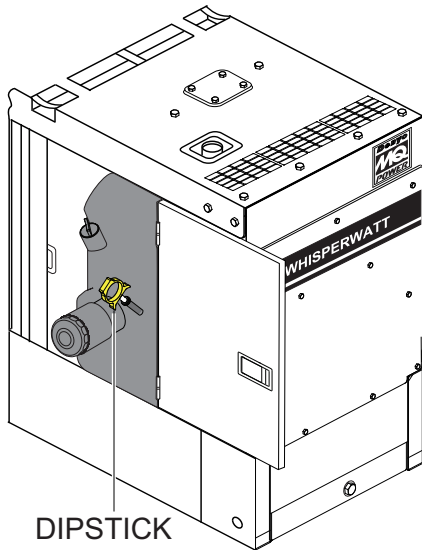

Figure 22. Engine Oil Dipstick
2. Remove the **engine oil dipstick** from its holder (Figure 22) and wipe it clean.